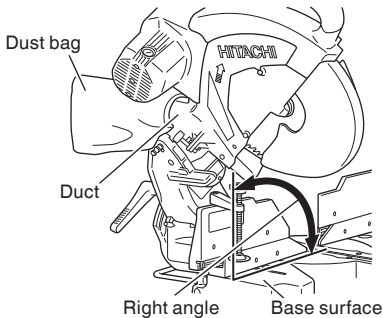

Fig. 49
- (2) During bevel and compound cutting, attach the dust bag at a right angle to the base surface as shown in Fig. 49.